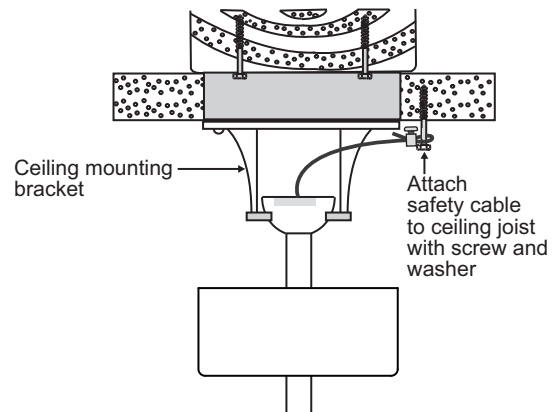

Fig. 12
Step 1. Attach the provided wood screw and washers to the ceiling joist next to the mounting bracket but do not tighten. (Fig. 12)